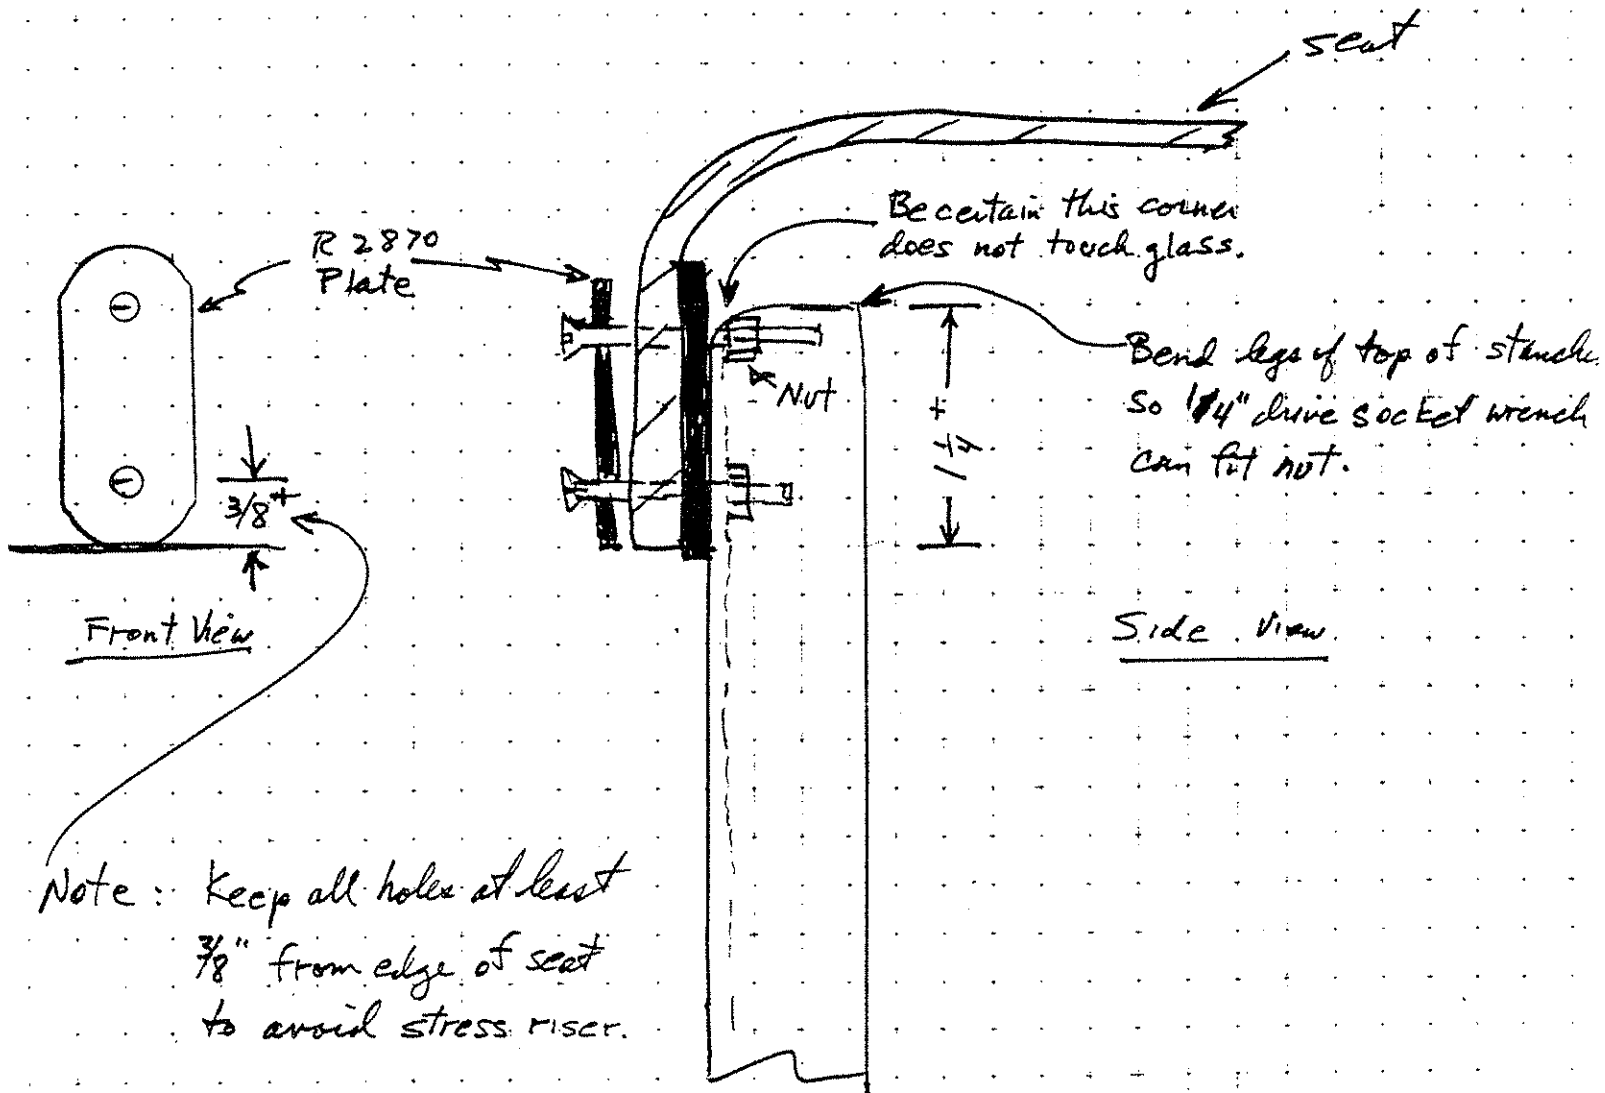

Figure 2 - View of stanchion layout
- * Cut stanchion so corner does not touch fiberglass as noted in Figure 2. If necessary, round corner as ~~done~~ shown.